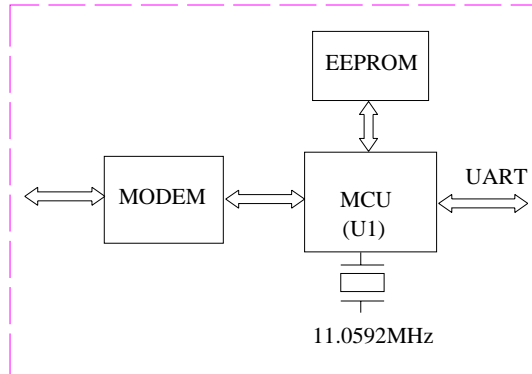

Fig.5
4) MCU, memory and Modem is shown in Fig.5.